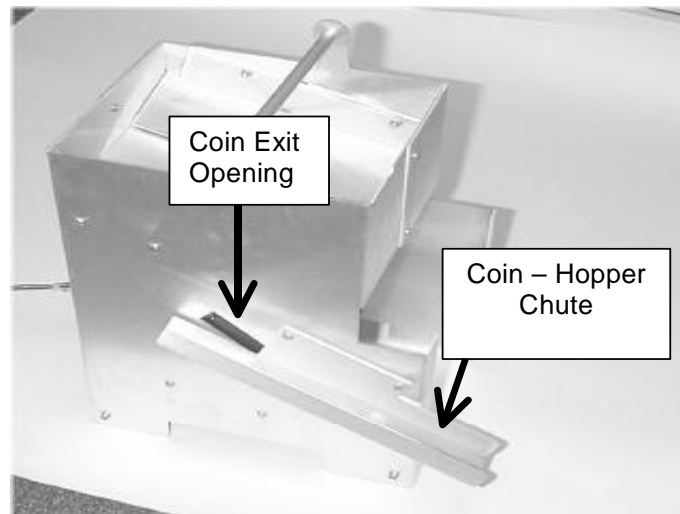

Figure 30. Hopper View - Coin Exit Opening and Chute
3. Place the hopper-cube back into the metal housing and replace the two screws you removed previously. Be sure that the coin exit opening of the hopper-cube is properly aligned with the exit chute of the metal housing. (See Figure 30.)